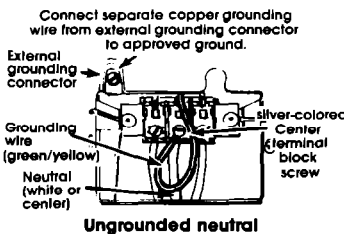

Figure 7
2. Remove the grounding wire (green) from the internal grounding connector and fasten under center, silver-colored terminal block screw. See Figure 7.